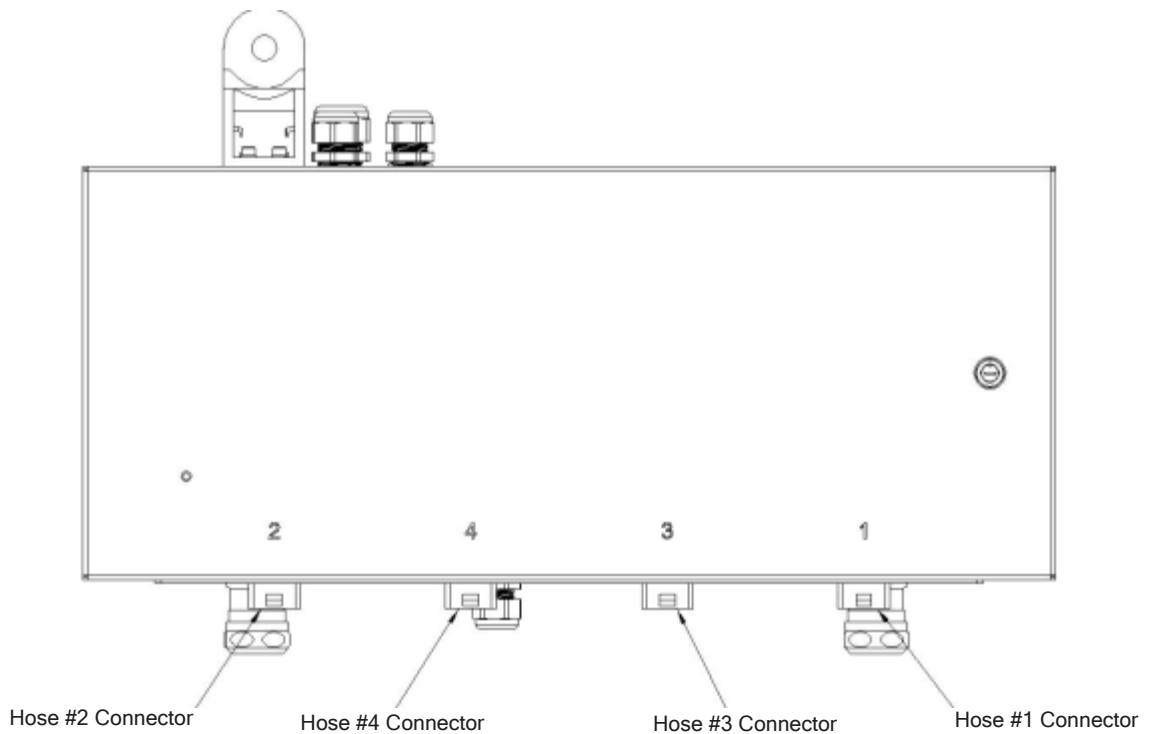

Figure 4-11. Junction Box Hose Electrical Locations
7. Connect the lead assembly's male electrical connector to the electrical receptacle located on the back panel above the fluid outlet ports. Connections are shown in Figure 4-11.